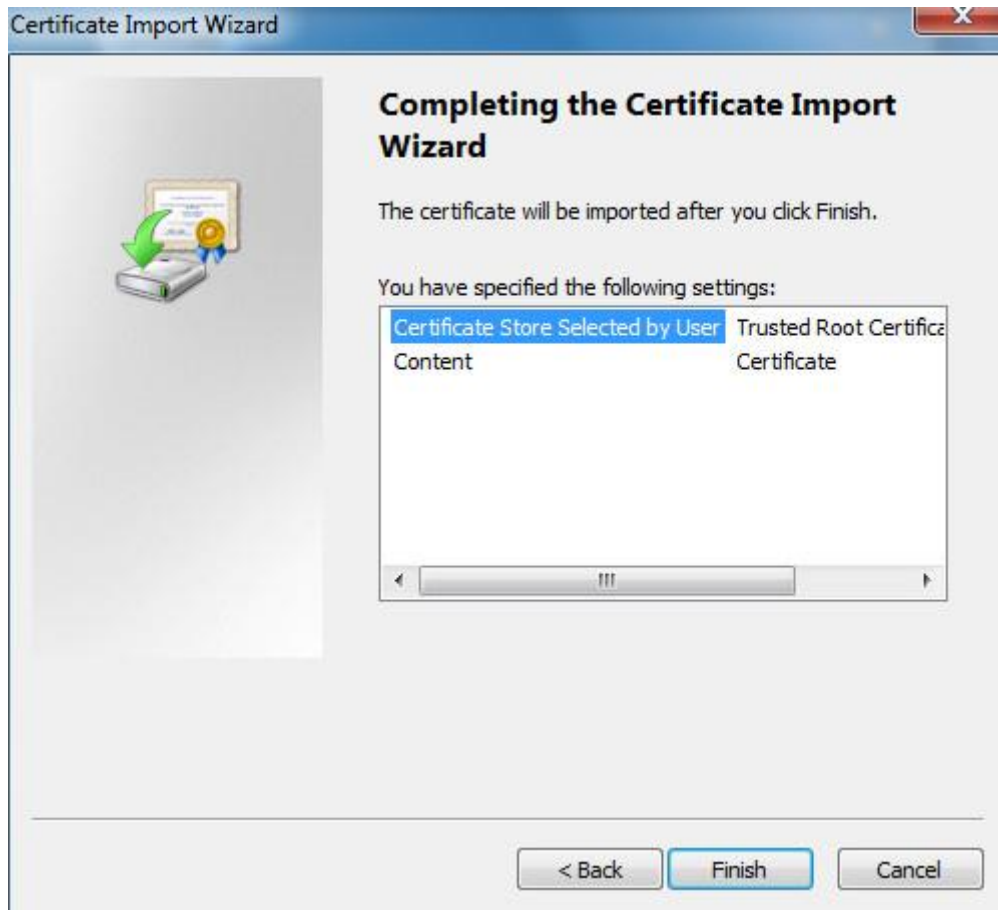

Figure 4-54
4. Select "Place all certificates in the following store", click "Browse" and set the certificate store as "Trusted Root Certification Authorities", and click "Next". The system will display the interface of "Completing the certificate import wizard", which is shown in Figure 4-54.